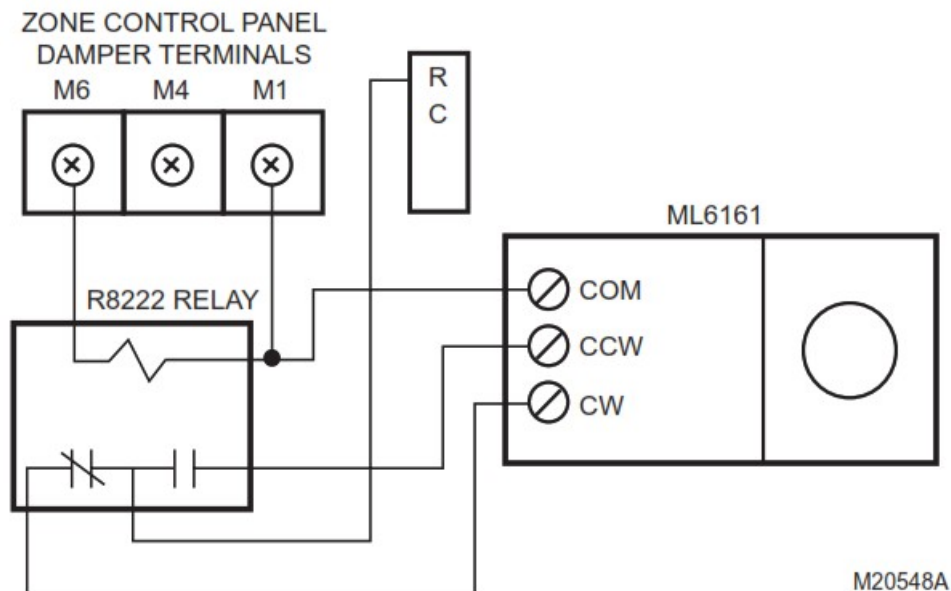

Fig. 12. MARD or ML6161 Damper Motor Actuator using R8222 Relay wiring.
6. Connect a 40 VA, 24 volt transformer to R (hot) and C (common). This must be a dedicated transformer and each TAZ-4 board also requires a transformer. See Fig. 12.
actuators, but are controlled as two-position devices on the TZ-4 panel. Multiple dampers can be wired in parallel. The ML6161 Motor causes the damper LED to illuminate green constantly. Wire a relay as shown in Fig. 12 to restore damper position indication.